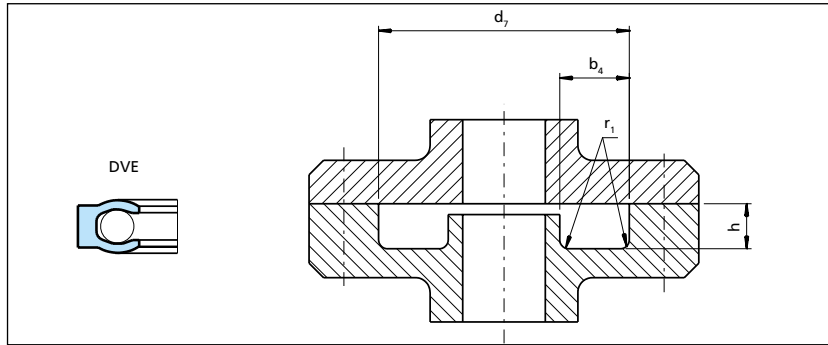

Figure 37 Installation drawing
*Please reference Figures 37 & 38.